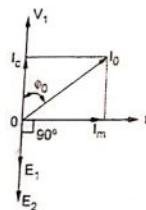

Fig. 5.7.1 Practical transformer on no load
- The phasor diagram is shown in the Fig. 5.7.1.